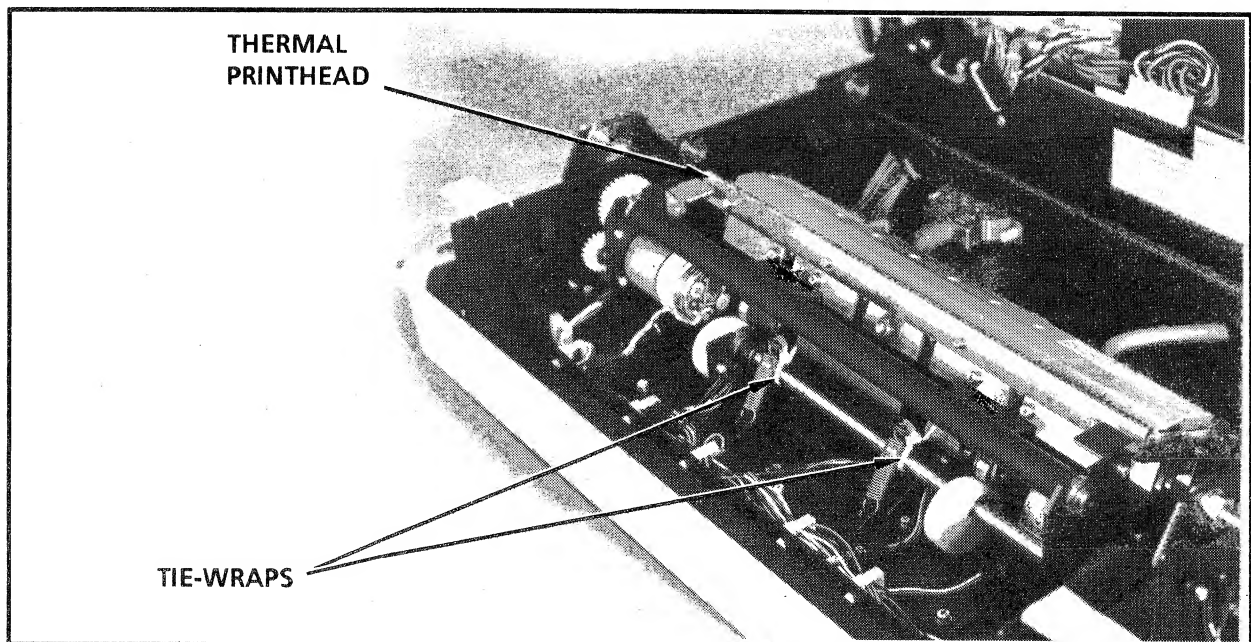

Figure 2-2. Unlocking the Printhead
6. Cut and remove the two tie-wraps securing the head position mechanism, as shown in Figure 2-2.
- Secure the head position mechanism with tie wraps as shown in Figure 2-2.